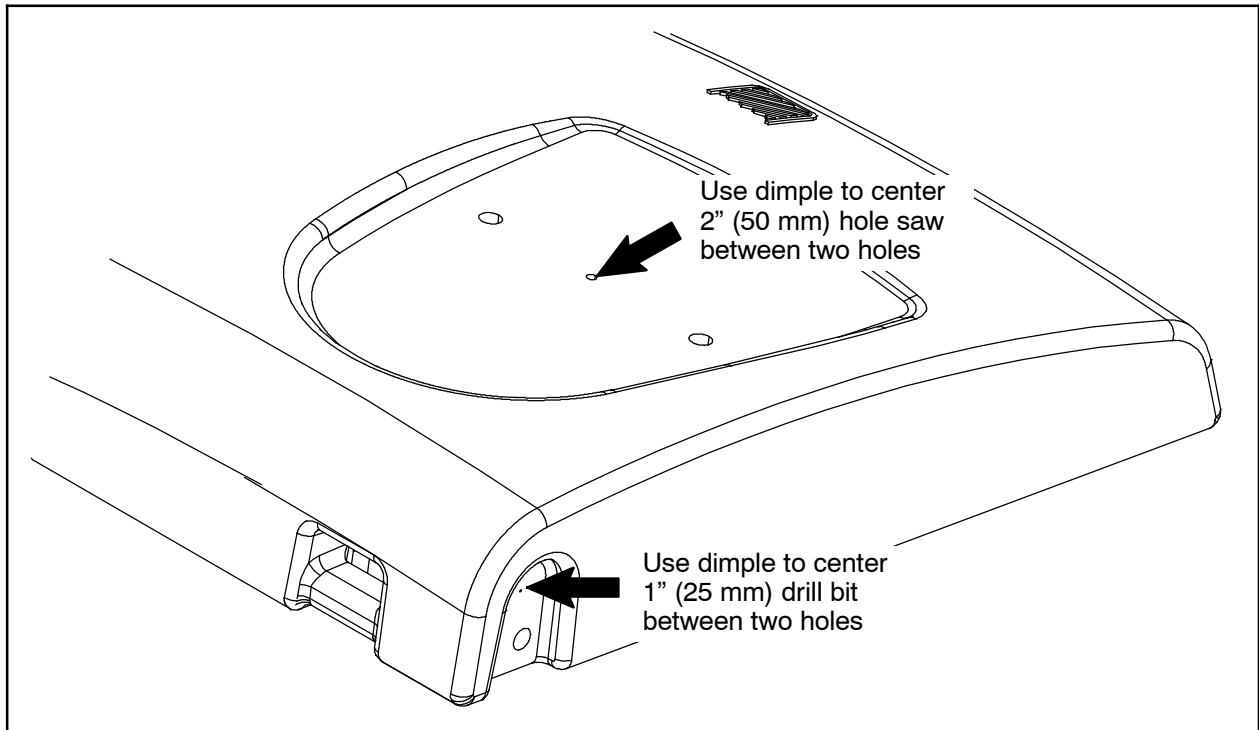
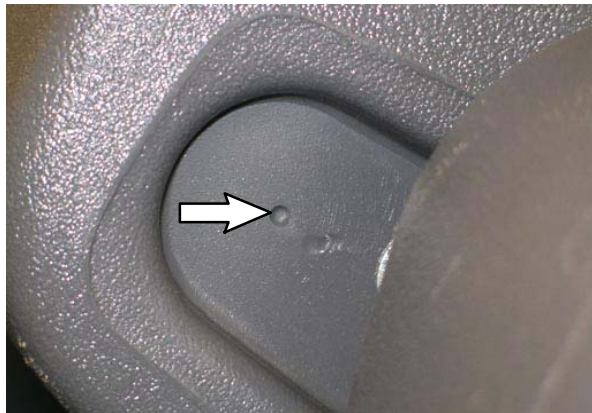

FIG. 2
FIG. 3
3. Drill a 1" (25 mm) hole through the recovery tank cover. (Fig. 2 / Fig. 3)
NOTE: Use the dimple centered between the two holes in the recovery tank cover to center the hole saw on the cover. (Fig. 3)
5. Use a 2" (50 mm) hole saw to cut a hole through the top of the recovery tank cover. **Do Not** cut into the bottom of the recovery tank cover. (Fig. 2)